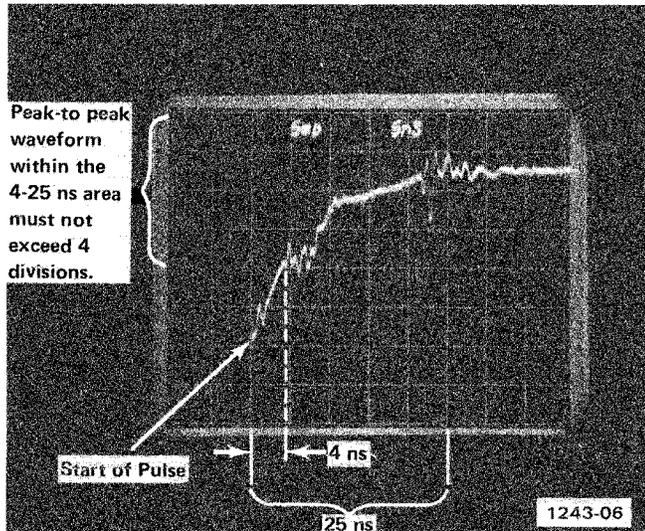

Fig. 5-5. Waveform showing a 4 division display corresponding to a reflection coefficient of 0.1 or less.
m. Position the top portion of the waveform to midscreen, using the DC OFFSET control (see Fig. 5-5).
o. Check--the peak to peak waveform for a 4 division display or less, as observed within the 4--25 nsec area (see Fig. 5-5). This corresponds to a reflection coefficient of 0.1 or less. If more than four divisions, repeat steps 7, 8, and 9.